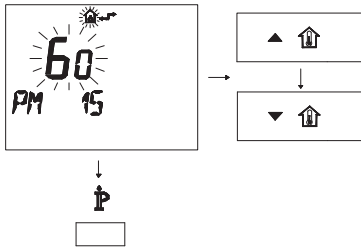

Fig. 7.13
- Modify the programmed SET by acting on buttons  $\blacktriangle$   $\uparrow$  or  $\blacktriangledown$   $\uparrow$  until a **setting of 60** is displayed, wait for the number programmed to flash (Fig. 7.13)